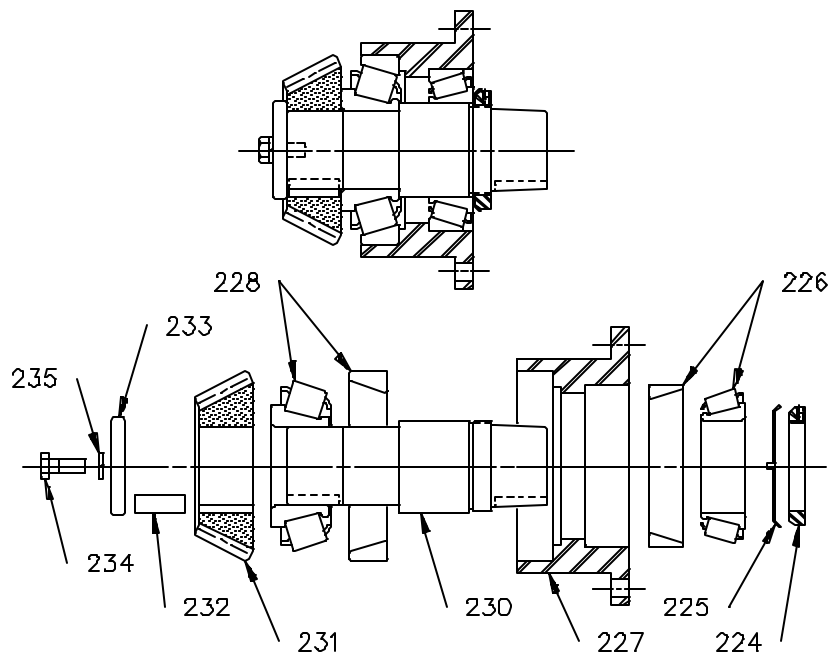

Figure 19: Spiral Bevel Pinion Cartridge Assembly [223]
5. Insert the spiral bevel pinion shaft [230] (*Figure 19, page 20*) into cartridge housing [227].